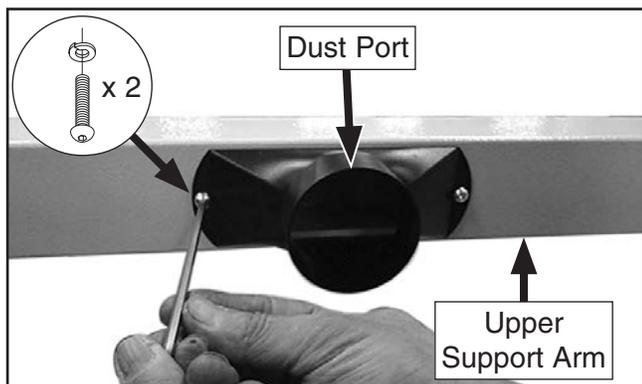

Figure 61. Installing dust port on upper support-arm.
72. Attach dust port to upper support arm, using (2) M6-1 x 12 button head cap screws and (2) 6mm lock washers (see **Figure 61**).